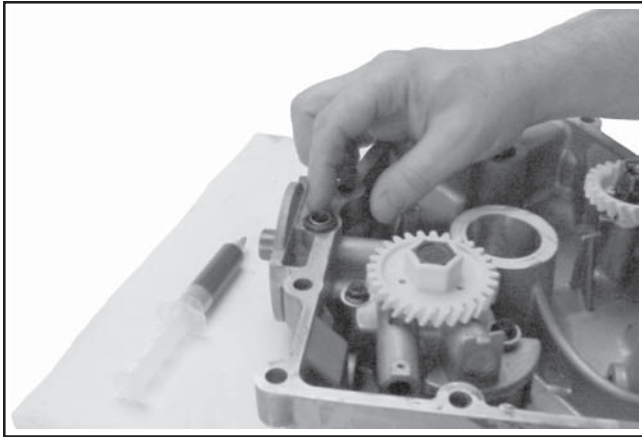
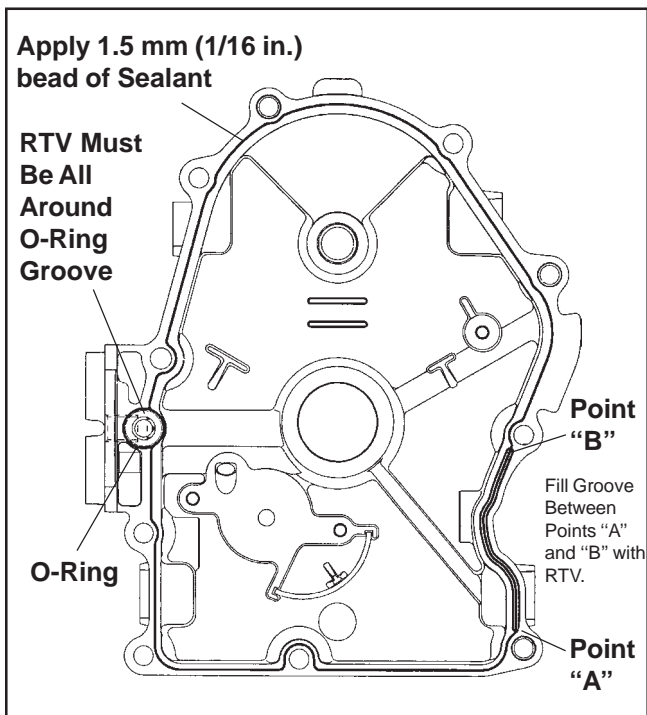

Figure 11-14. Installing O-Ring in Groove of Oil Pan.
Figure 11-15. Oil Pan Sealant Pattern.
3. Install the O-Ring in groove as shown. See Figure 11-14. Apply a 1.5 mm (1/16 in.) bead of sealant to the sealing surface of the oil pan. See Figure 11-15 for the sealant pattern.